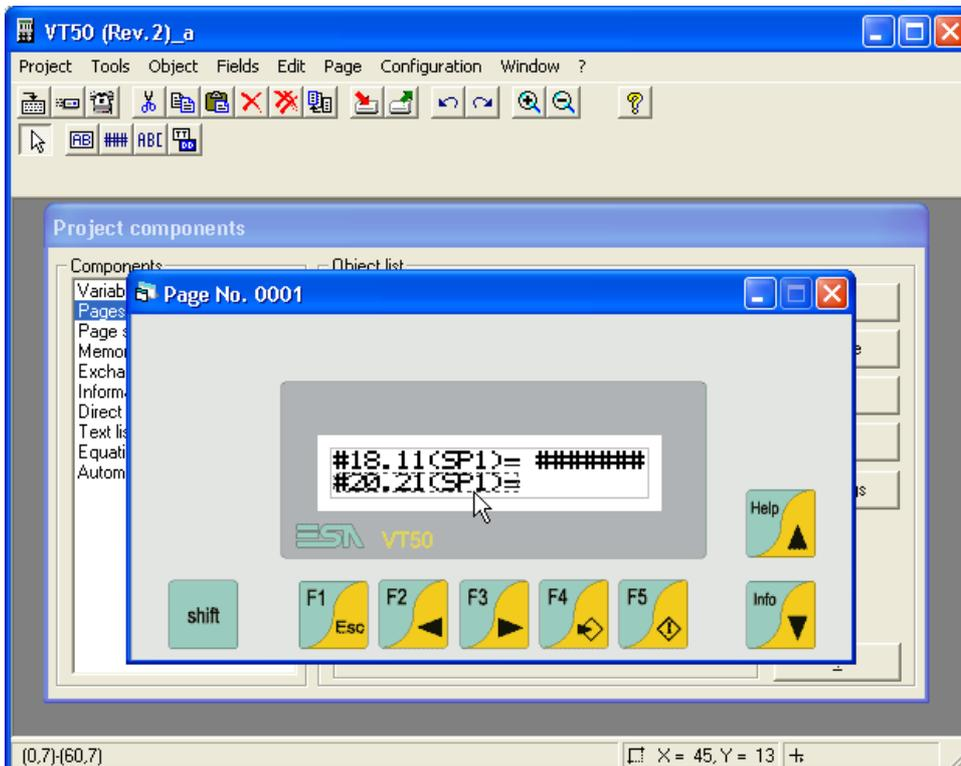

Fig. 22.
3.21 Proceed similarly as per point 3.19, to introduce the information as shown in Fig. 22.